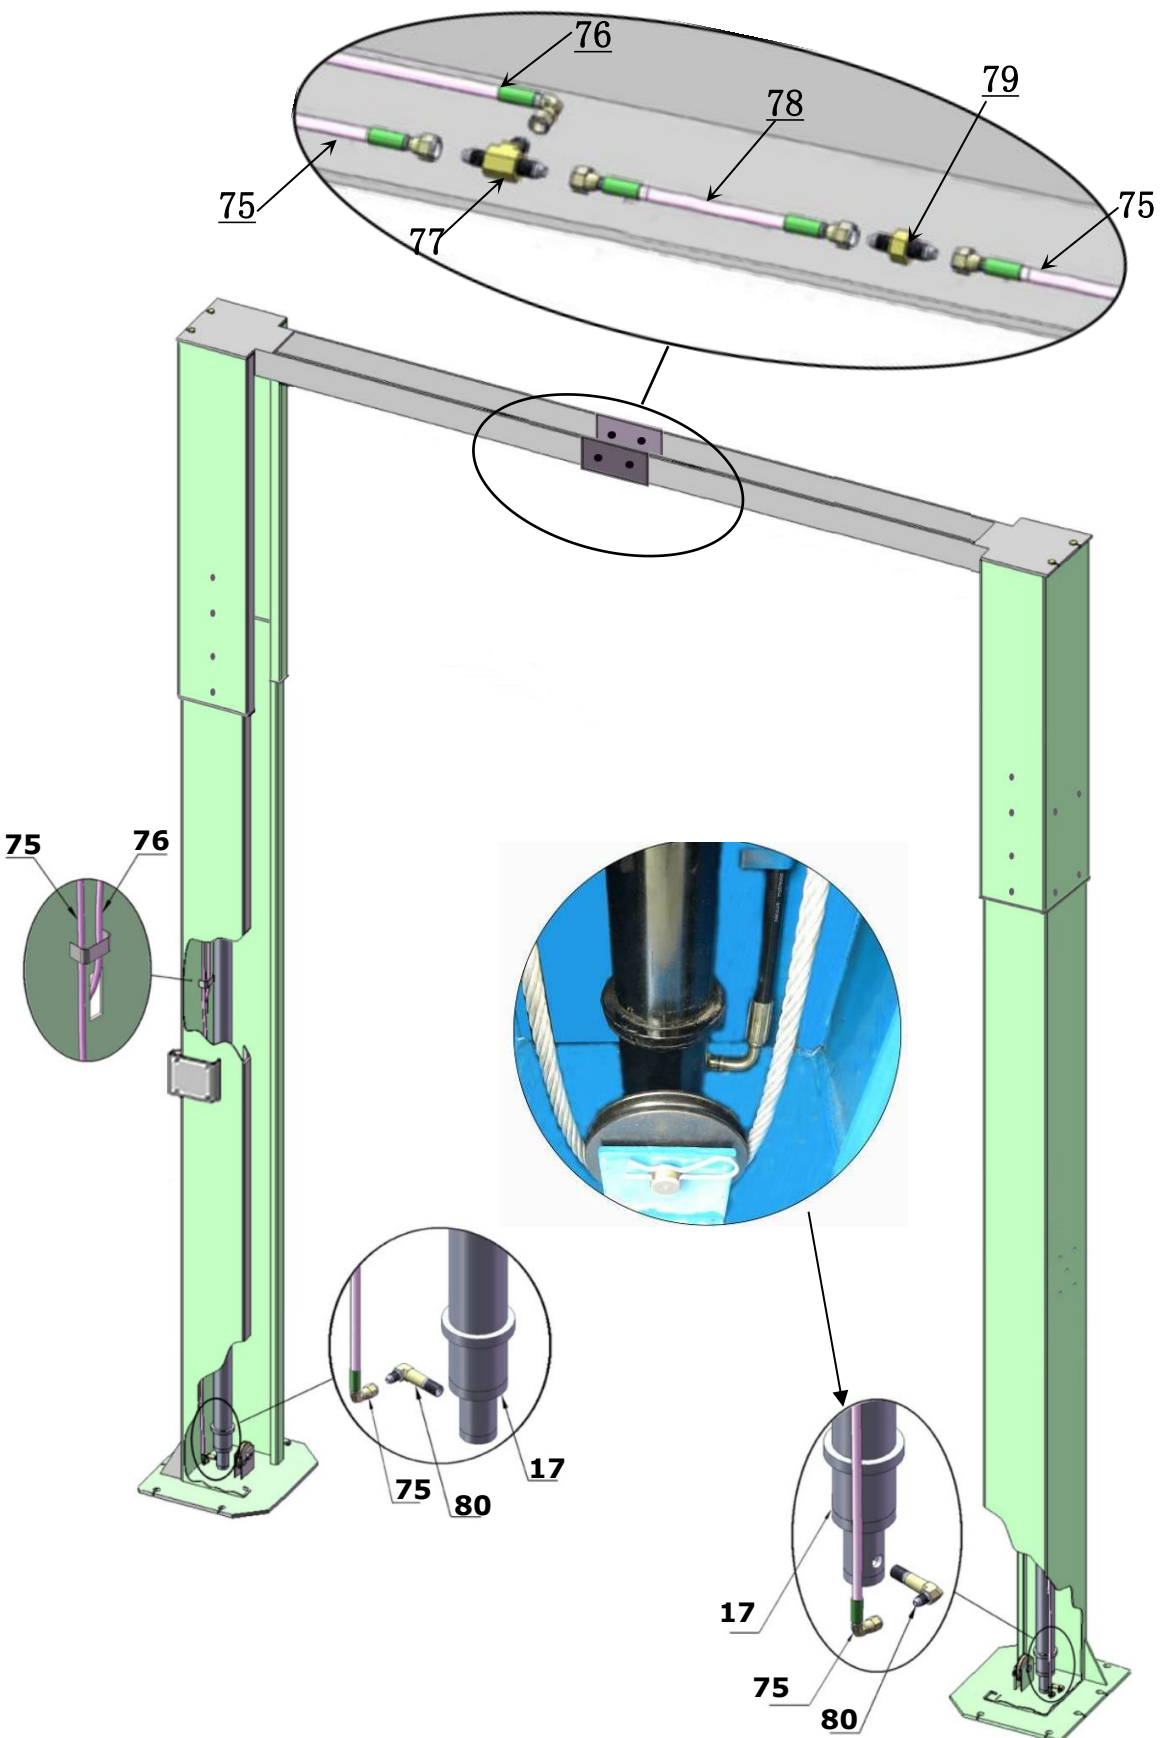

Fig. 21
L. Assembly oil hose,tighten all the fitting for oil hose. See fig.21